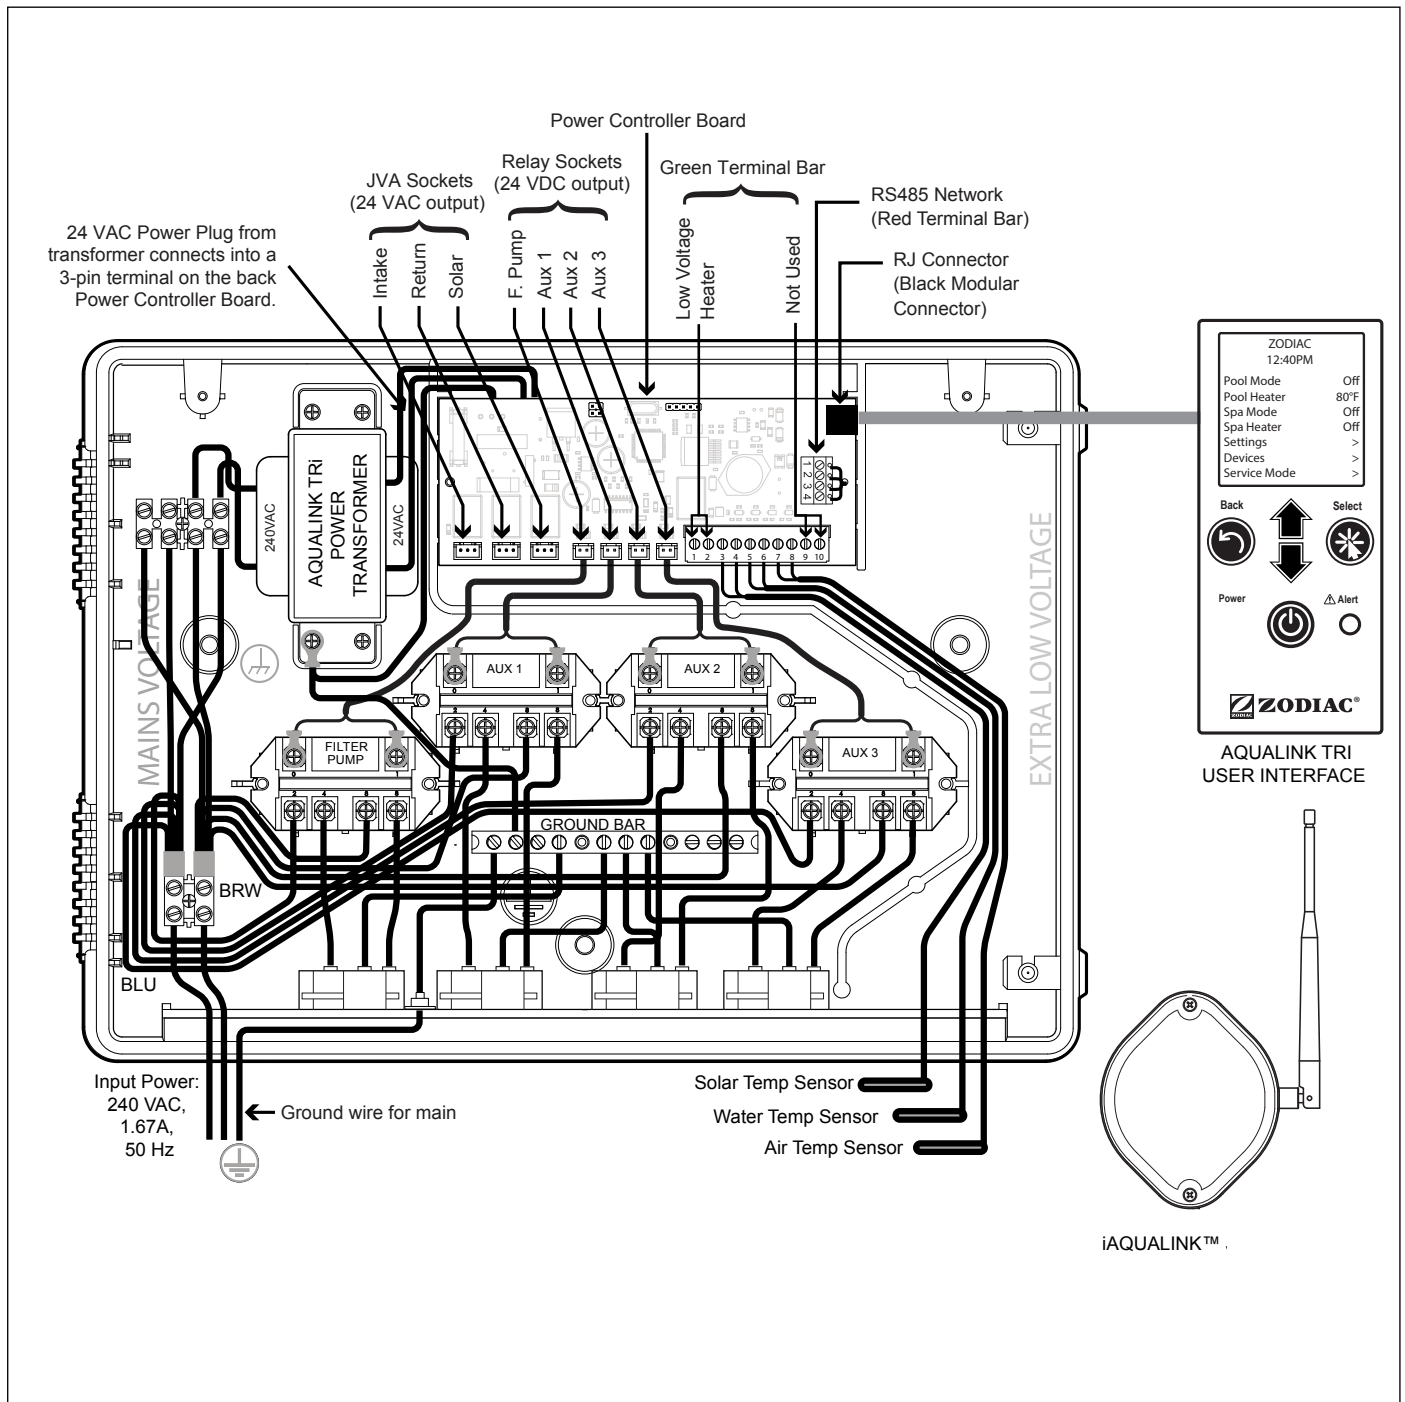

Figure 2. AquaLink TRI Controller Electrical Wiring Diagram
NOTE: See *Figure 2. AquaLink TRI Electrical Wiring Diagram* for specific wire locations and connections.
Wire the temperature sensors on the 10-pin green connector (see Figure 2. Wiring Diagram). The air temperature sensor is factory-installed on the 10-pin green connector (pins 7,8). The water temperature sensor and necessary installation hardware is included.
If there is additional extra low voltage equipment installed, such as extra low voltage heating, wire temperature sensor to pins 1, 2 on the 10-pin green connector (see Figure 2. Wiring Diagram).
3. Plug JVAs in as shown in Figure 2. Wiring Diagram.